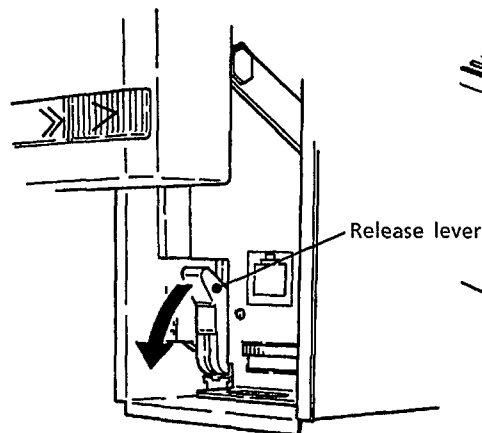

Figure 4.6 Removing the Internal Unit 1
- ① Swing up the front panel (see Section 4.2 "Swinging the Front Panel Up and Down").
- ② Pull down the release lever (see Figure 4.6). The connector part at the back comes off, and the power of the internal unit is turned off.